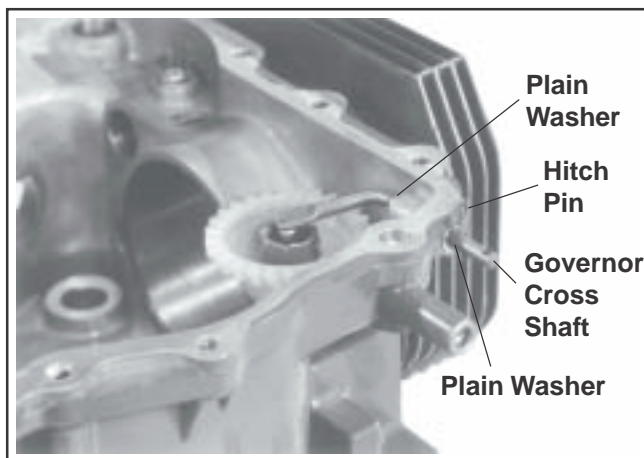

Figure 11-3. Installing Cross Shaft.
- Install one plain washer to the cross shaft and insert the cross shaft (from inside crankcase) through the crankcase and oil seal. See Figure 11-3.